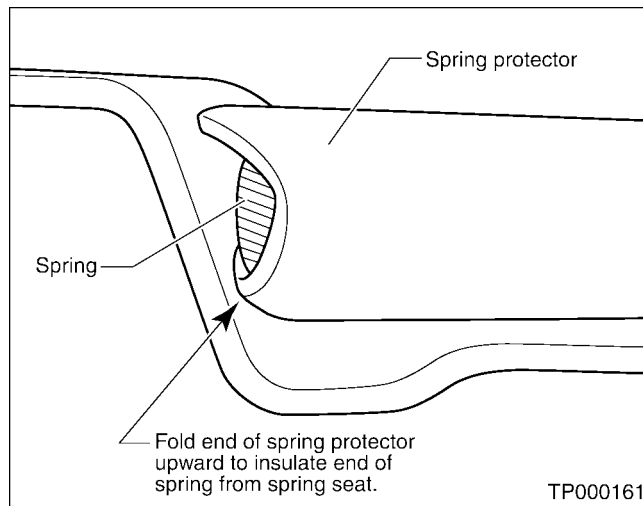

Figure 5
7. Set the spring back onto the lower seat. Fold the end of the spring protector upward so the end of the spring is protected from the lower seat (see Figure 5).